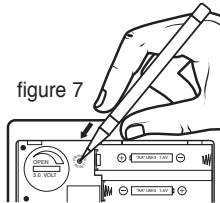

figure 7
2. Press the PRINTER RESET button using a ball point pen (see Figure 7 below).